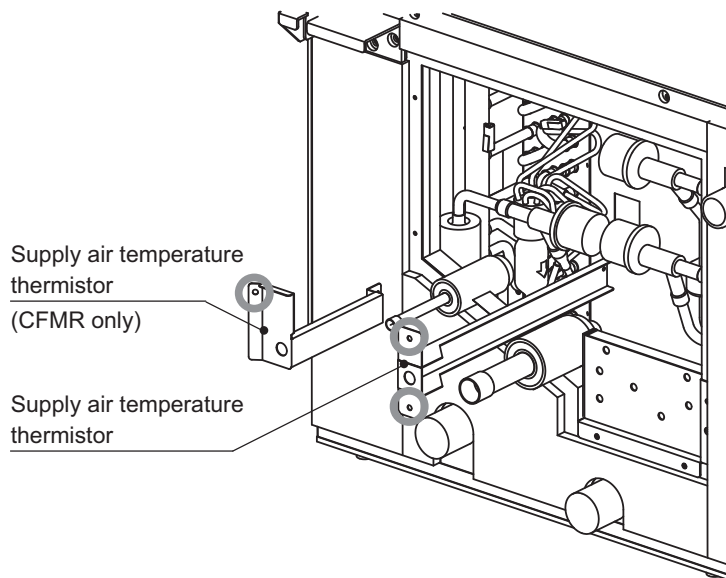

Fig.12
6. To remove the supply air temperature thermistor (Fig.12)